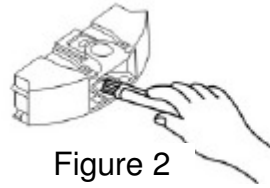

Figure 2
2. Pop up the blower, and then clean the air inlet/outlet with dust brush. (Refer to Figure 2 and Figure 3)